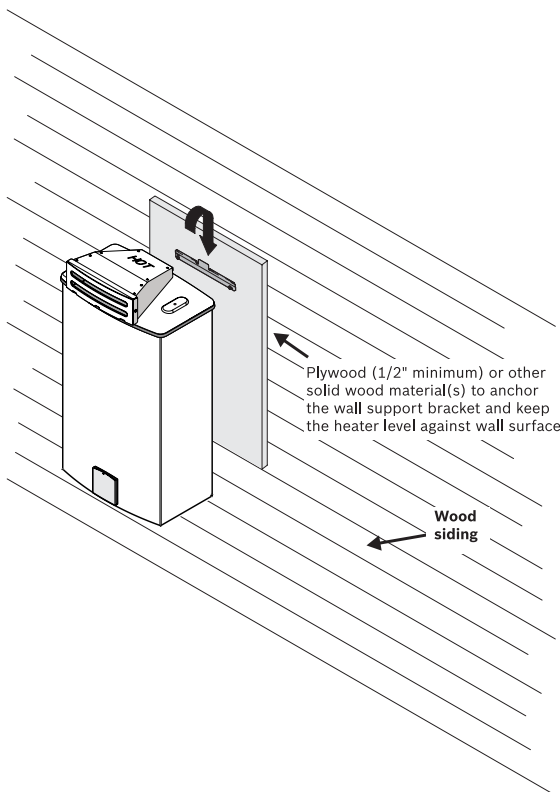

Fig. 7 Installation on wood siding
- ▶ The water heater is approved for installation directly on an outside wall. Secure the wall mounting bracket provided with the water heater to a wall surface. See Fig. 7.